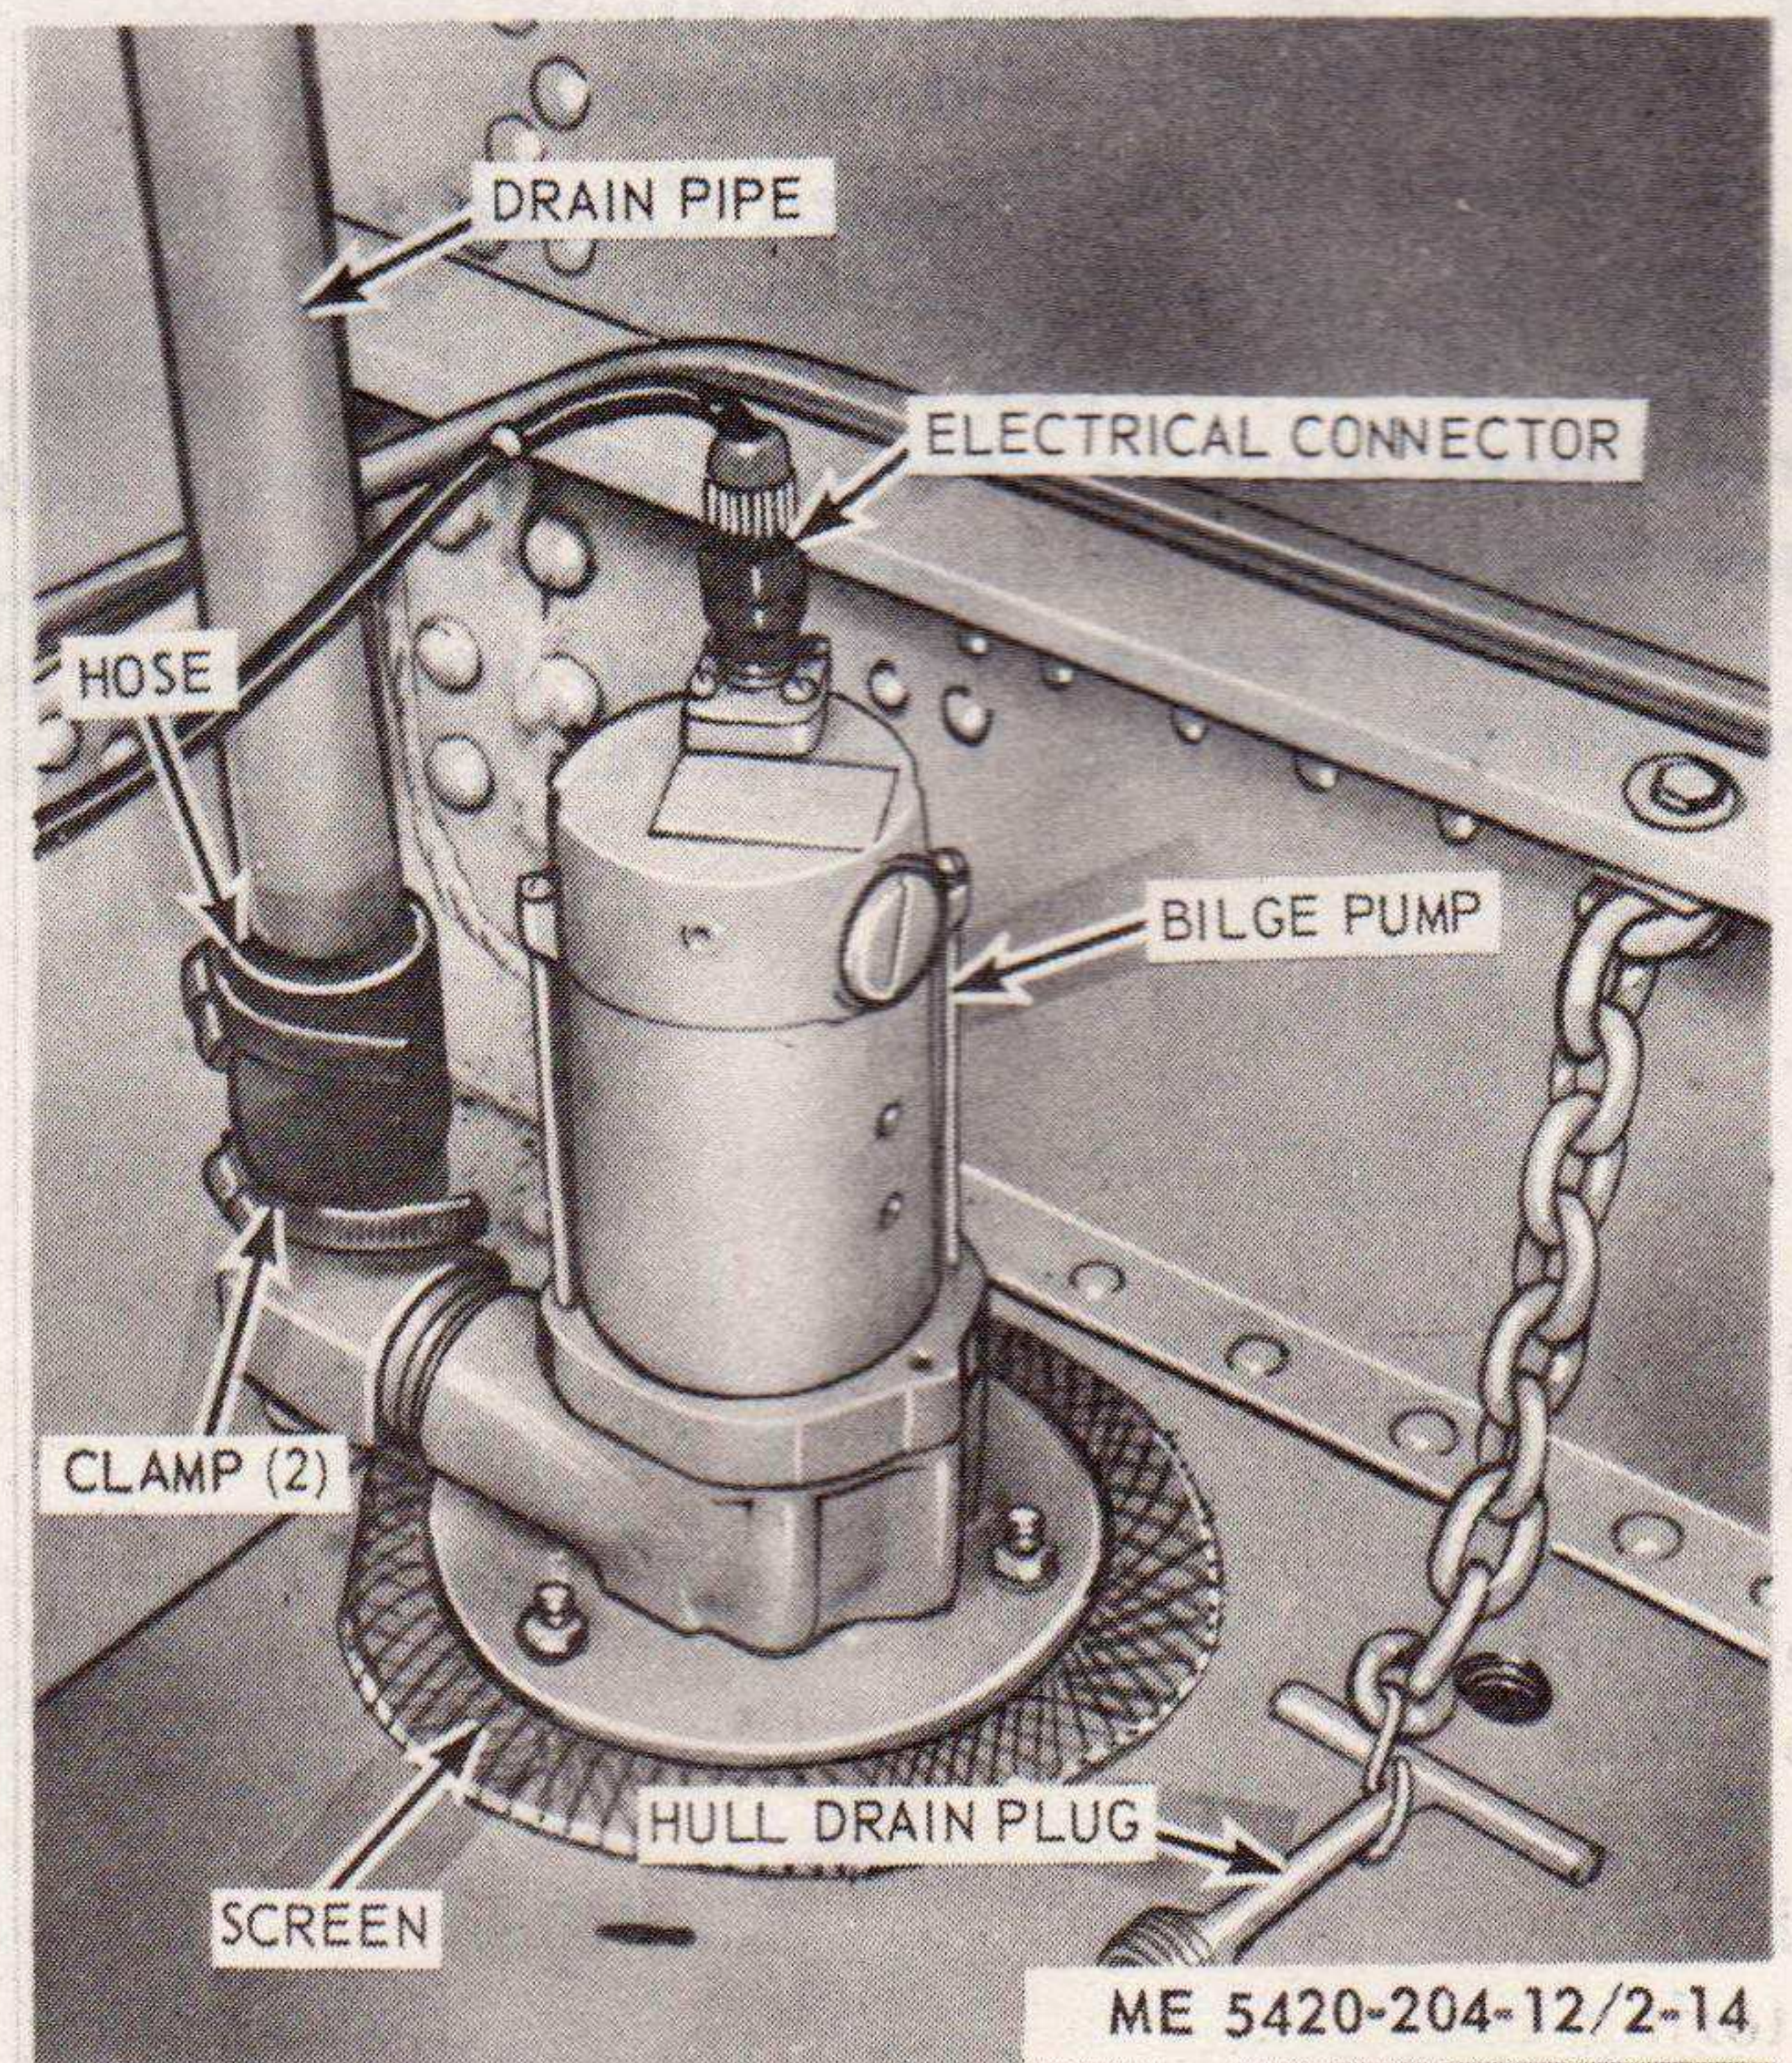

Figure 2-14. Bilge pump installation (typical).
(2) *Bilge Pump System.* If vehicle stands in freezing temperatures, any accumulation of water or moisture in pump system will quickly freeze. If pumps are not thawed prior to water operation, considerable damage might occur. To thaw bilge pumps and marine drive, first, open rear drain of front wheel well; then start and operate engine with all hatches closed, until thawing is completed. Be certain that all bilge pump inlet screens (fig. 2-14) are free and clean. Be certain all drains are open.